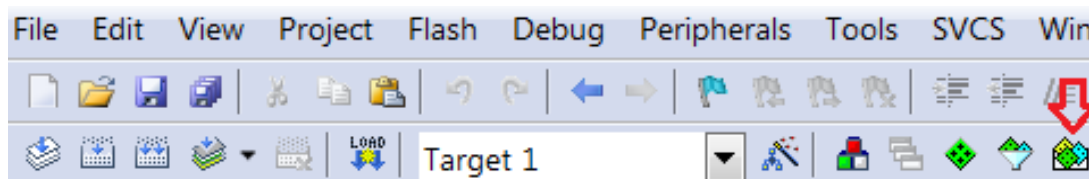

Figure 20. Pack Installer Icon
2. Open the Keil µVision IDE and navigate to **Project > Manage > Pack Installer** or click on the icon shown in the "Pack Installer Icon" figure (Figure 20).